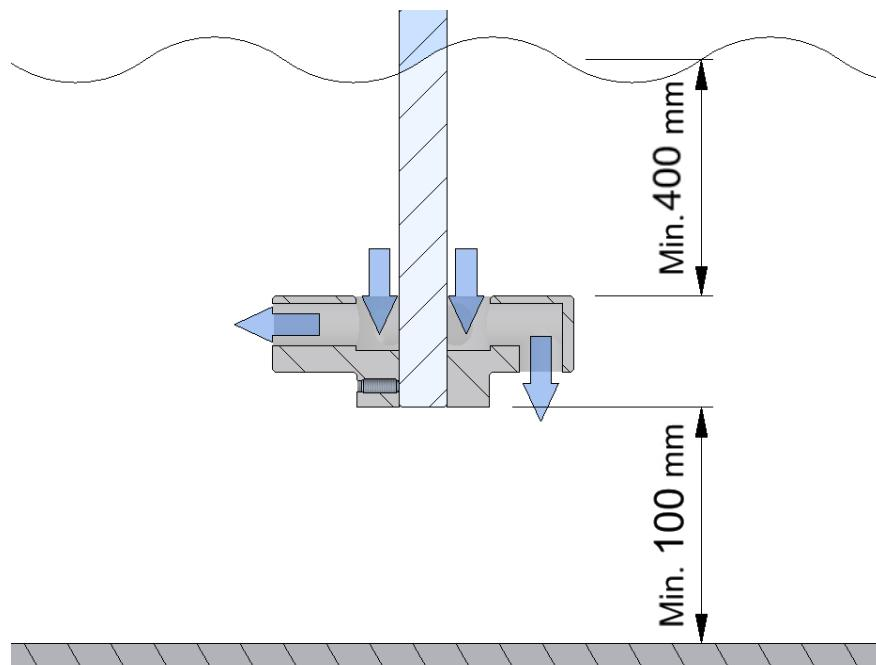
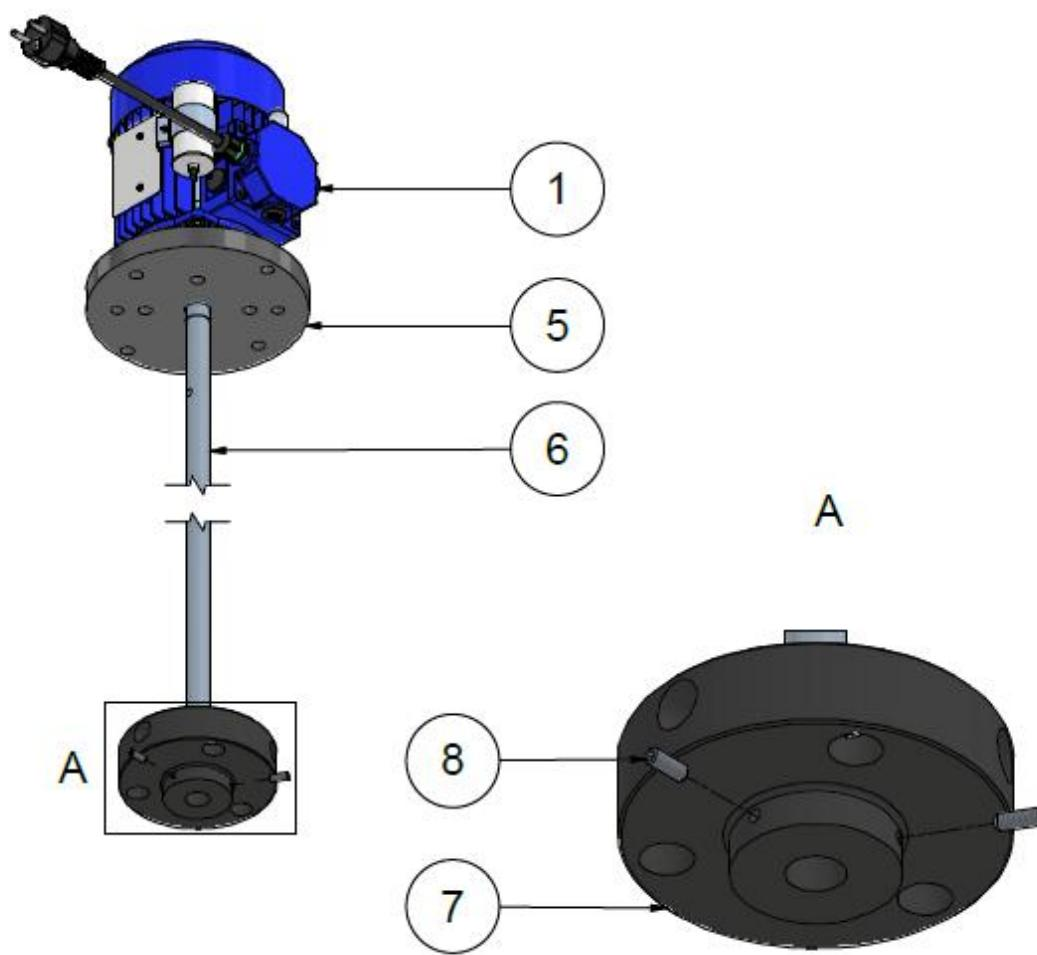

Figure 3 Position of the mixing disc
Figure 4 Assembly of the Enmix light
The rotation of the mixer shaft and the mixing disc sets the liquid in the reservoir in motion. The mixing disc takes in the liquid from above and then sends the liquid downwards and to the side via the channels in the mixing disc. In the disc there are 3 channels towards the bottom of the disc and 3 channels directly to the side of the mixing disc. This causes the liquid to move as shown in Figure 3. The standard direction of rotation of the mixing disc is clockwise (viewed from above).
the numbers between parentheses referring to the numbers and parts in Figure 4.
- Measure the depth, from the surface where the mounting plate (5) is assembled to, to the bottom of the reservoir.
- Shorten the shaft (6), if necessary, and ensure that the mixing disc (7) is as deep as possible and at least 400 mm above the bottom of the fluid reservoir.
- The shaft (6) can be shortened using a hacksaw or cutting disc.
- Insert the shaft (6) through the opening in the mixing disc (7).
- Please note that the suction side is facing to the top (see Figure 4).
- Fix the mixing disc (7) to the shaft (6) using two stainless steel set screws m6x16 (8).
- Attach the mounting plate (5) to the reservoir or a structure above this.
- o Ensure the mixing disc rotates +/- 100 mm from the bottom of fluid reservoir (see Figure 3)
- Assemble the mixing disc following Figure 3 and Figure 4. If the assembly of the mixing disc is done in the wrong way, the fluid can be sprayed upwards. This could create dangerous situations.